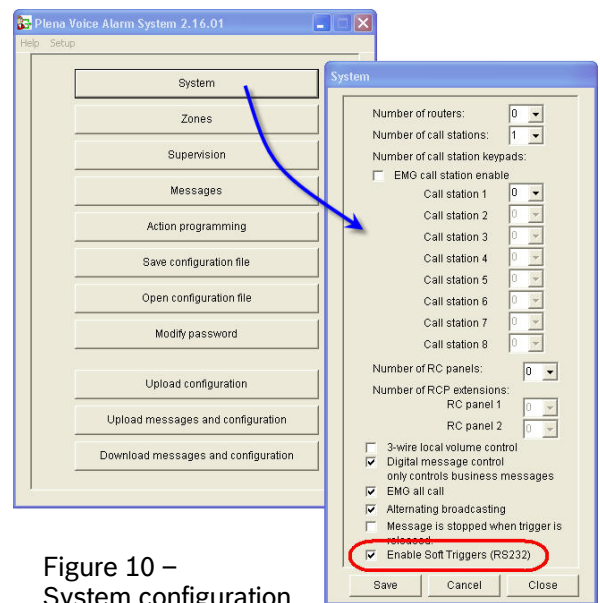

Figure 10 – System configuration
- 7) Press the "System" button to open the system configuration menu (figure 10)
- 8) Check the "Enable Soft Triggers (RS232)" as shown in figure 10 and press save. Close the window.